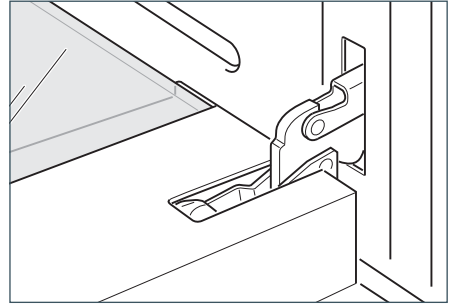

Fig.81a
- Fully open the oven door (Fig. 81a).
- 1 Make sure the door is locked open (see Figs. 81a - 81c).